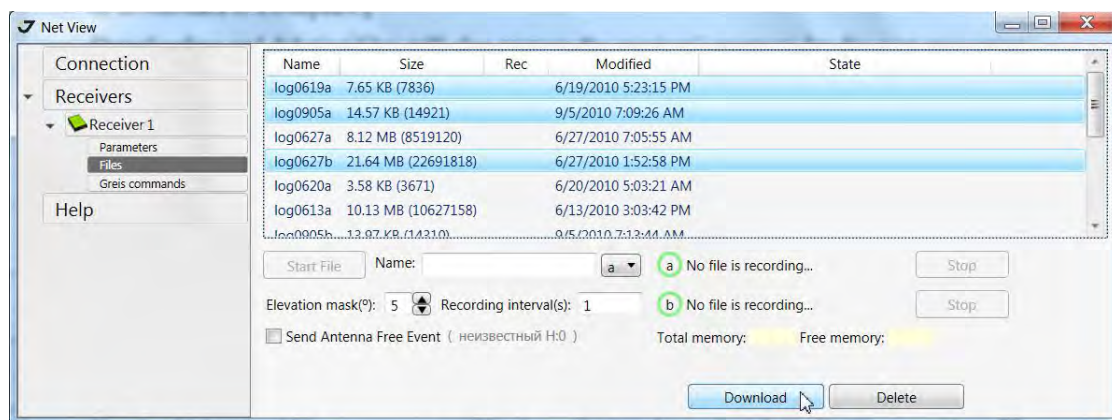

Figure 21. Download Files
2. Click *File* on the left panel. On the right panel appears the list of files, saved in receiver’s memory. Select the file(s) to download (Figure 21).